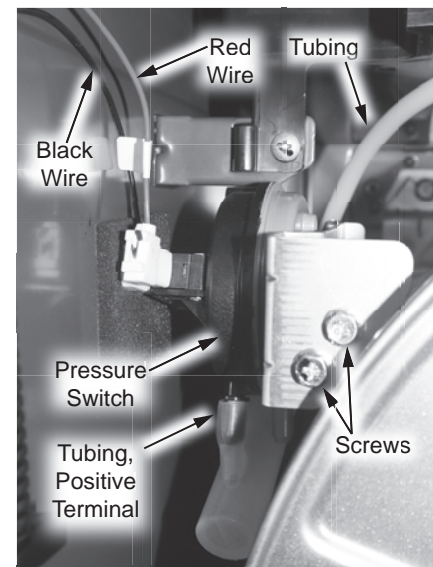

Figure 140 - Pressure switch assembly location
- 36** Locate the pressure switch assembly on upper left side of the heat exchanger as shown in Figure 140.
64 Connect tubing from pressure switch assembly to the port located on the heat exchanger exhaust as shown in Figure 30. Confirm tubing is fully secured to heat exchanger. Confirm tubing is connected to the positive terminal (black side) of the pressure switch assembly as shown in Figure 140.
65 Connect pressure switch wires previously removed in **Step 39**. Red connection is on the right and black connection is on the left. Confirm connections are tight and routed properly as shown in Figure 140.